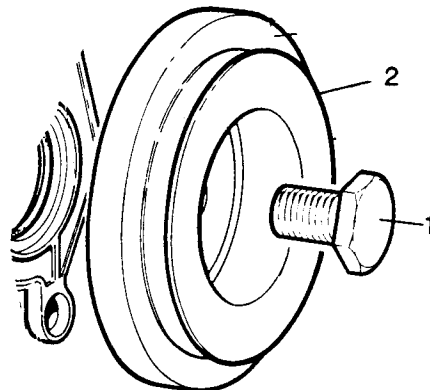

Fig B4.99
- (7) Refer to Fig B4.99. Remove the harmonic balancer bolt (1) and pull the crankshaft pulley (2) away.
- (8) Remove the camshaft cover (see Sub-section B4, Chapter 11).